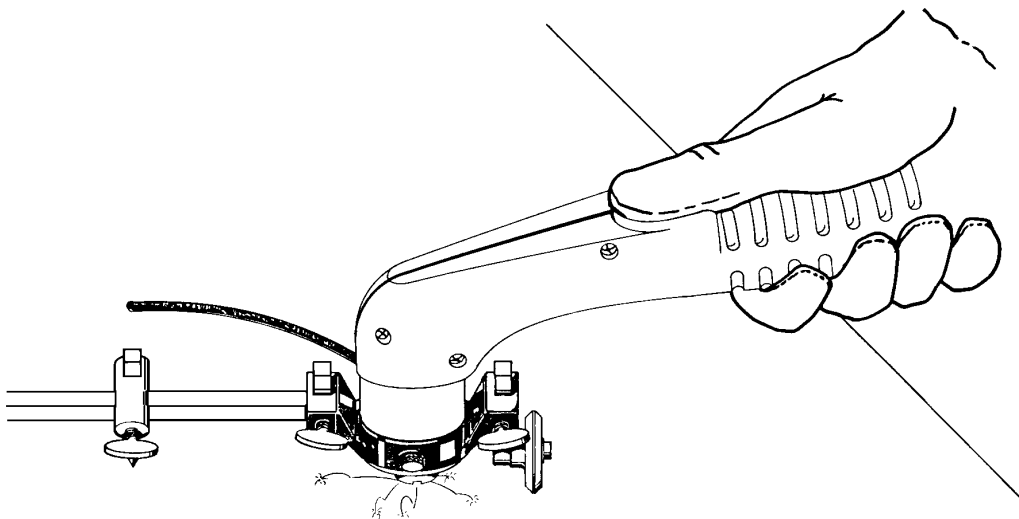

Figure 4-7 Cutting a Circle
- To cut circles use a template or a radius cutter attachment (Fig. 4-7).